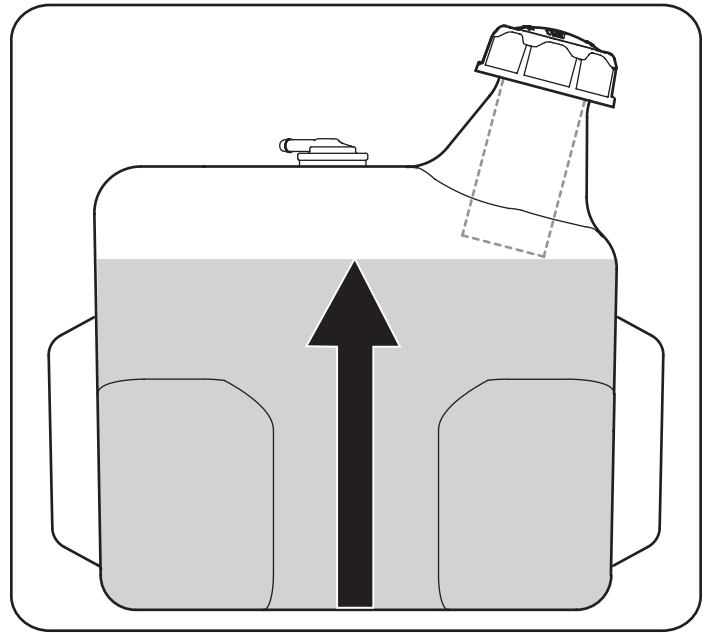

Figure 10
2. Fill the fuel tank with gasoline. Use only clean, fresh (no more than 30 days old), unleaded gasoline. Fill tank to no more than 1/2" below bottom of filler neck to allow space for fuel expansion. See Figure 10.
IMPORTANT: Do not overfill the tank. Fill tank to no more than 1/2" below bottom of filler neck to allow space for fuel expansion. See Figure 10.